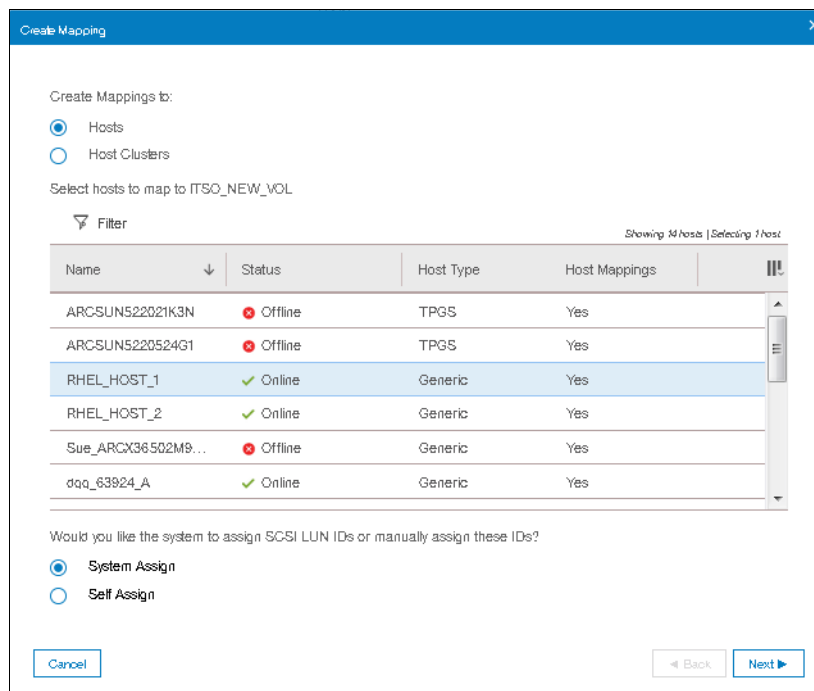

Figure 6-45 Select a host or a host cluster
2. Select a host or a host cluster to which the new volume should be attached as shown in Figure 6-45.